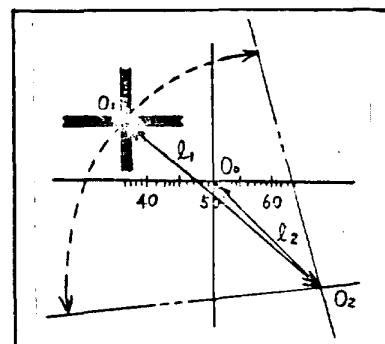

Fig. 21
Adjust the prism seats (25) (right) and (26) (left) so as the collimator reticle image  $O_1$  comes to the revolving center  $O_2$  by means of the erecting prism tool (J25115) as shown in Fig. 21 ( $O_1 O_2 = \ell_1$ ).